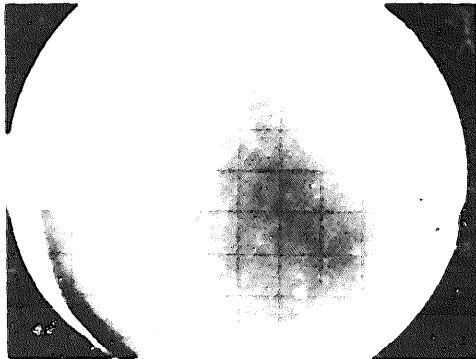

Figure 1-6. Background illumination occurs when erasing with WRITING RATE in MAX
- i. **BACKGROUND ILLUMINATION** - A green cloud of illumination visible on the CRT screen, Figure 1-6.
n. Fig. 1-6 thru 1-13 are provided to show typical CRT displays with various control settings and input signals. They are examples which, if duplicated by the operator, will aid in understanding the operation of the Model 141A. Fig. 1-13 shows small bright spots on the CRT screen which are caused by minute imperfections in the storage mesh.